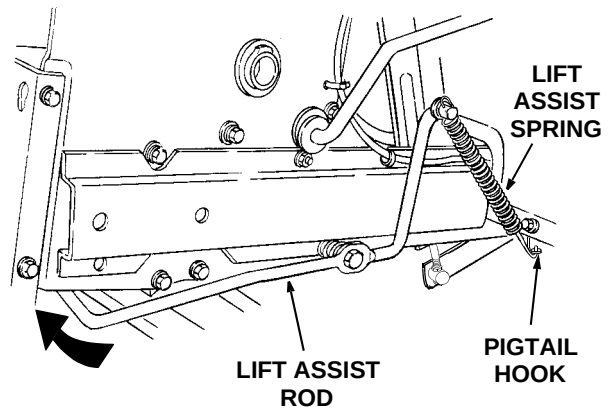

Figure 51
4. While lowering the rear end of the lift assist rod, guide the lower spring hook into the pigtail hook at the lower front of the fender (Refer to Figure 51).
5. Tension the spring by pushing downward and then inward on the rear of the lift assist rod so that the flange at rearward end of the rod locks inside the tractor frame (See Figure 51).